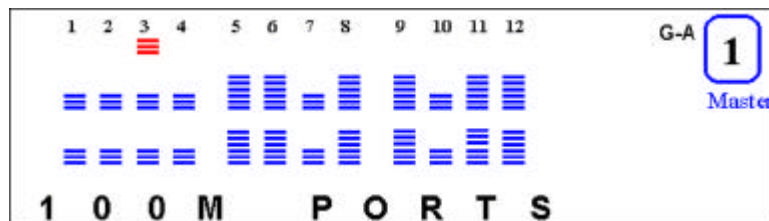

Figure 4.15 100M Ports
- 4) Press <Next> to view the status of other ports. 100M ports status is displayed. In Figure 4.15, ports 17, 18, 20, 21, 22, 24, 5, 6, 8, 9, 11 & 12 are indicated as 100M ports.